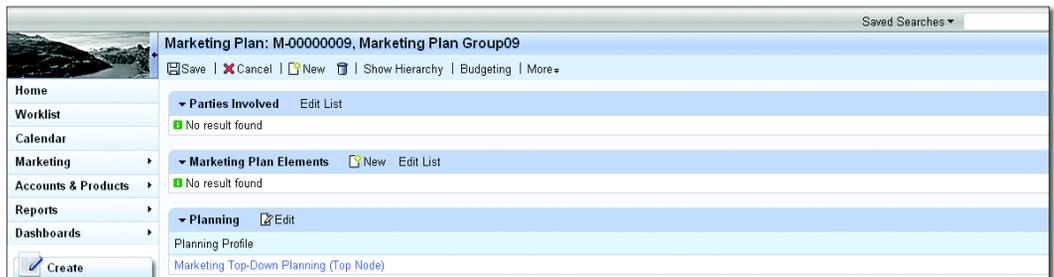

Figure 5.7 Assigning Planning Profile to the Marketing Plan
- Next, assign the planning profile either to the marketing plan or campaigns. Figure 5.7 shows the example of the planning profile being assigned to the marketing plan. The planning profile makes a call to SAP Business Planning and Simulation (BPS is part of SAP NetWeaver 2004/SAP Business Warehouse 3.51 and higher).
- After you assign the planning profile group and planning profile, in this case for PLANNING and the PLANNING PROFILE MARKETING TOP-DOWN PLANNING, you can enter the amount that is available for the entire marketing project that belongs to this hierarchy node (see Figure 5.7).